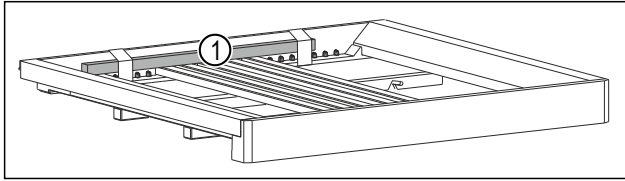

Fig. 7 *
- ▶ Remove the wooden stick Fig. 7 [1].*